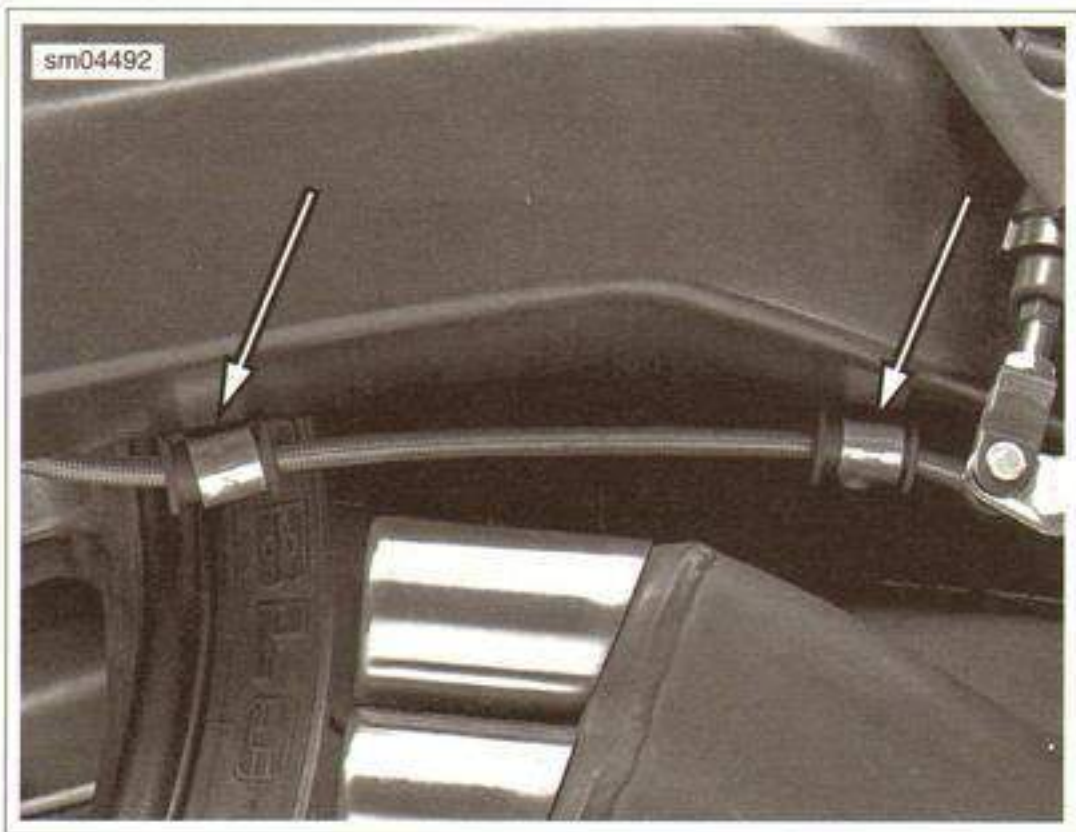

Figure 2-109. Brake Fluid Line P-clamps
4. See Figure 2-109. Remove P-clamps connecting brake fluid line to swingarm.